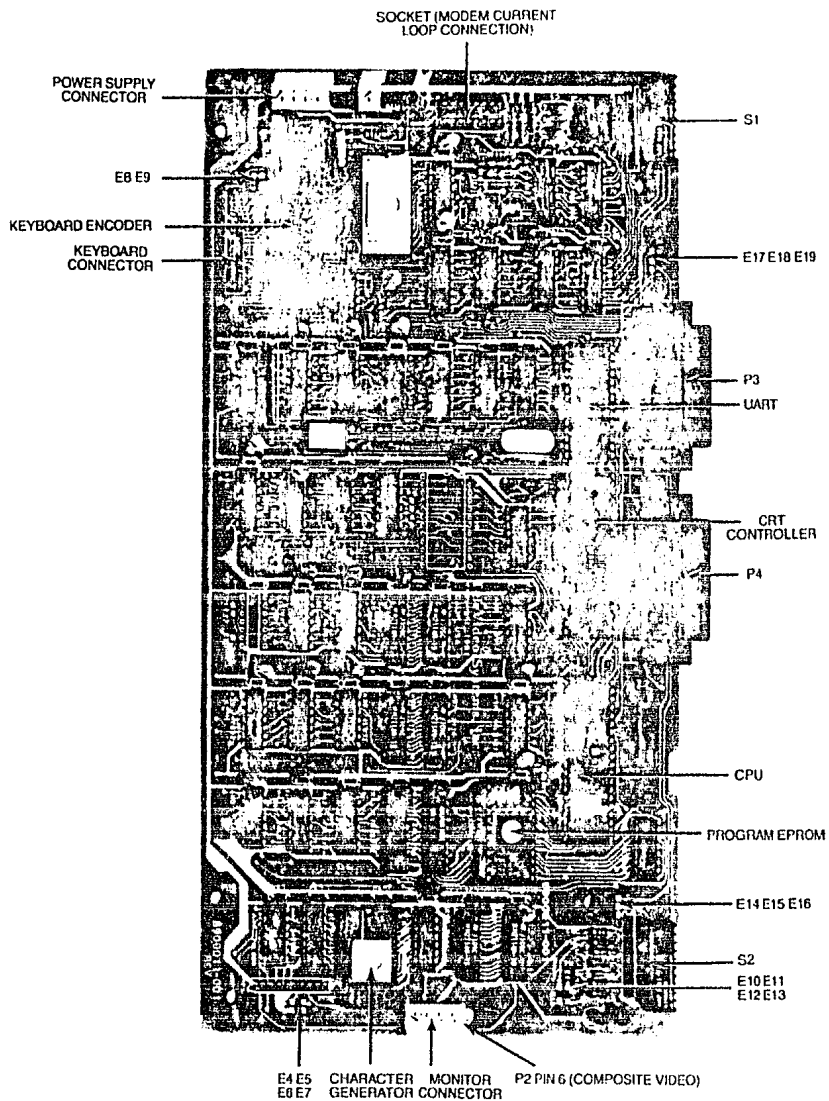
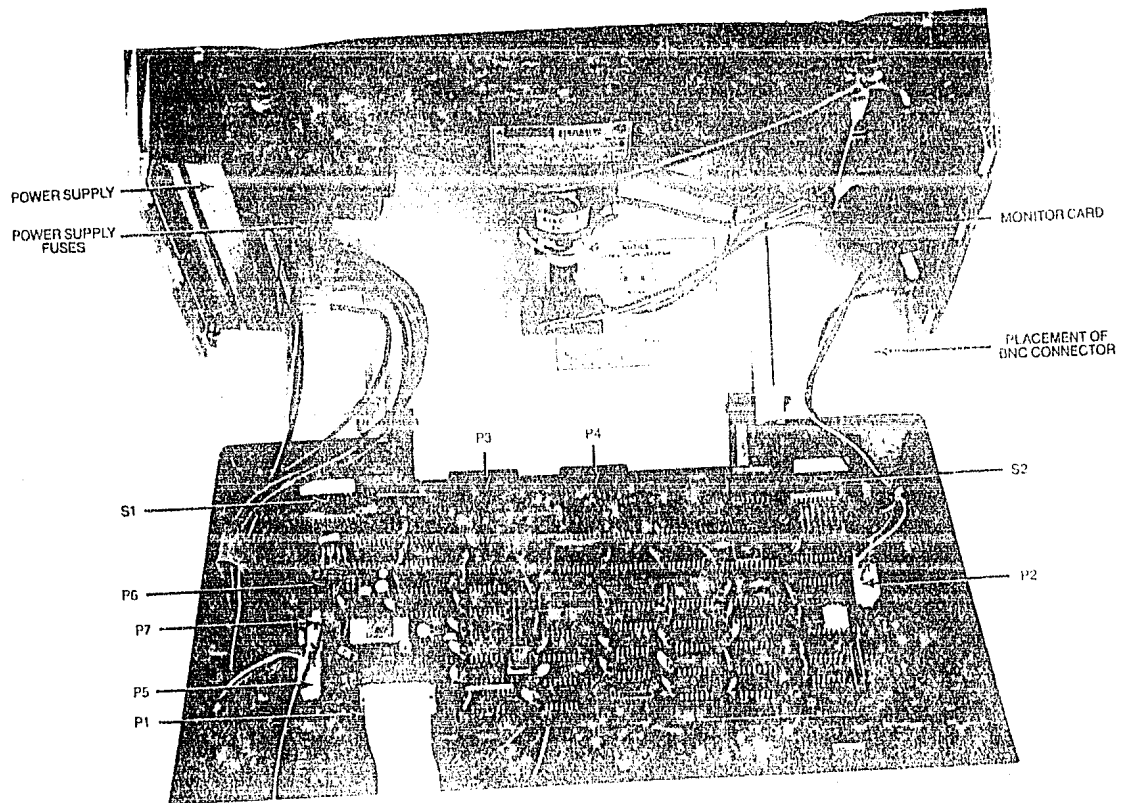

Figure 2-5 Logic Board
Figure 2-6 Interior of Terminal
2.4.4.3 Composite Video Jumper Option— To drive a monitor in addition to or other than the terminal monitor, modify the logic board (Fig. 2-5) by adding an Amphenol BNC connector (Part 227169-3) to the rear of the terminal case. (See Fig. 2-6 for recommended placement.)